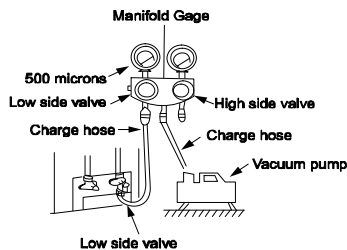

Fig. 16 — Manifold
3. Fully open the low side of manifold gage (see Fig. 16).